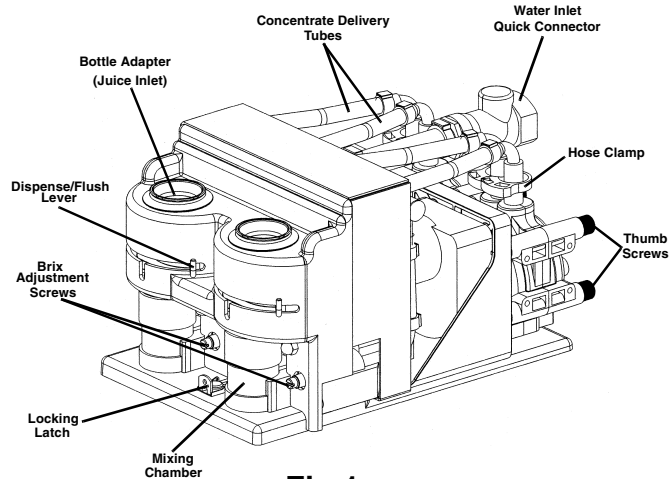

Fig.1
4. Unplug the water line quick disconnect by pressing the gray button (see Fig. 1&2).
5. Slide the locking latch forward. Lift the platform slightly and pull forward to gain access to the electrical connector (see Fig.1).
6. Unplug the electrical connector by squeezing the locking tabs on either side and pulling out the connector. Lift and remove the pump platform (see Fig.1).
2. Remove the two white plastic hose clamps from the pump tube connections (see Fig. 1&2). Remove the concentrate delivery tubes from the hose ends.